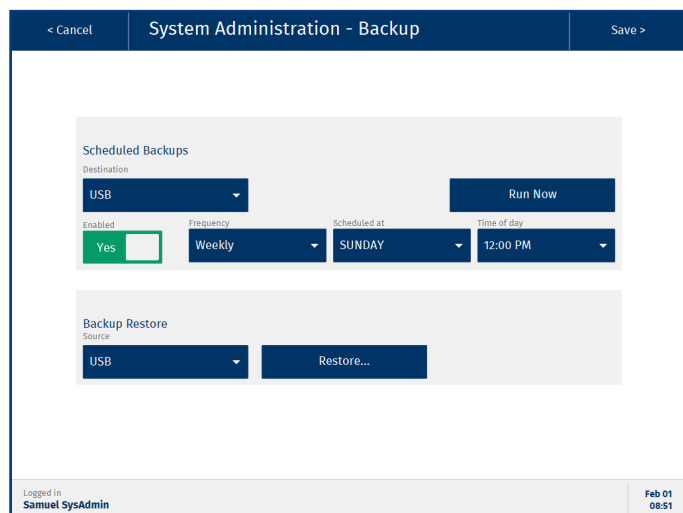

Figure 20. The Backup view.
Backups can be scheduled and started manually in the **Backup** view (see Figure 20) by users with system administrator access.
2. If the system has both network share and USB export enabled, select where you want the backup to be stored from the **Destination** drop-down list (see Figure 20).
4. If the system has both network share and USB export enabled, select the location of the backup file from the **Source** drop-down list (see Figure 20).